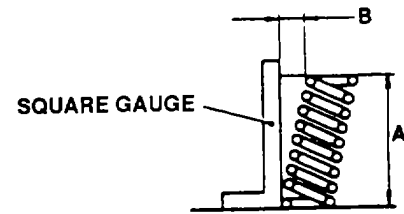

Figure 6-4. Spring Inclination
- j. Refer to Figure 6-4. Check that the valve spring free length (dimension A) is more than 1.043 inches (26.5 mm).